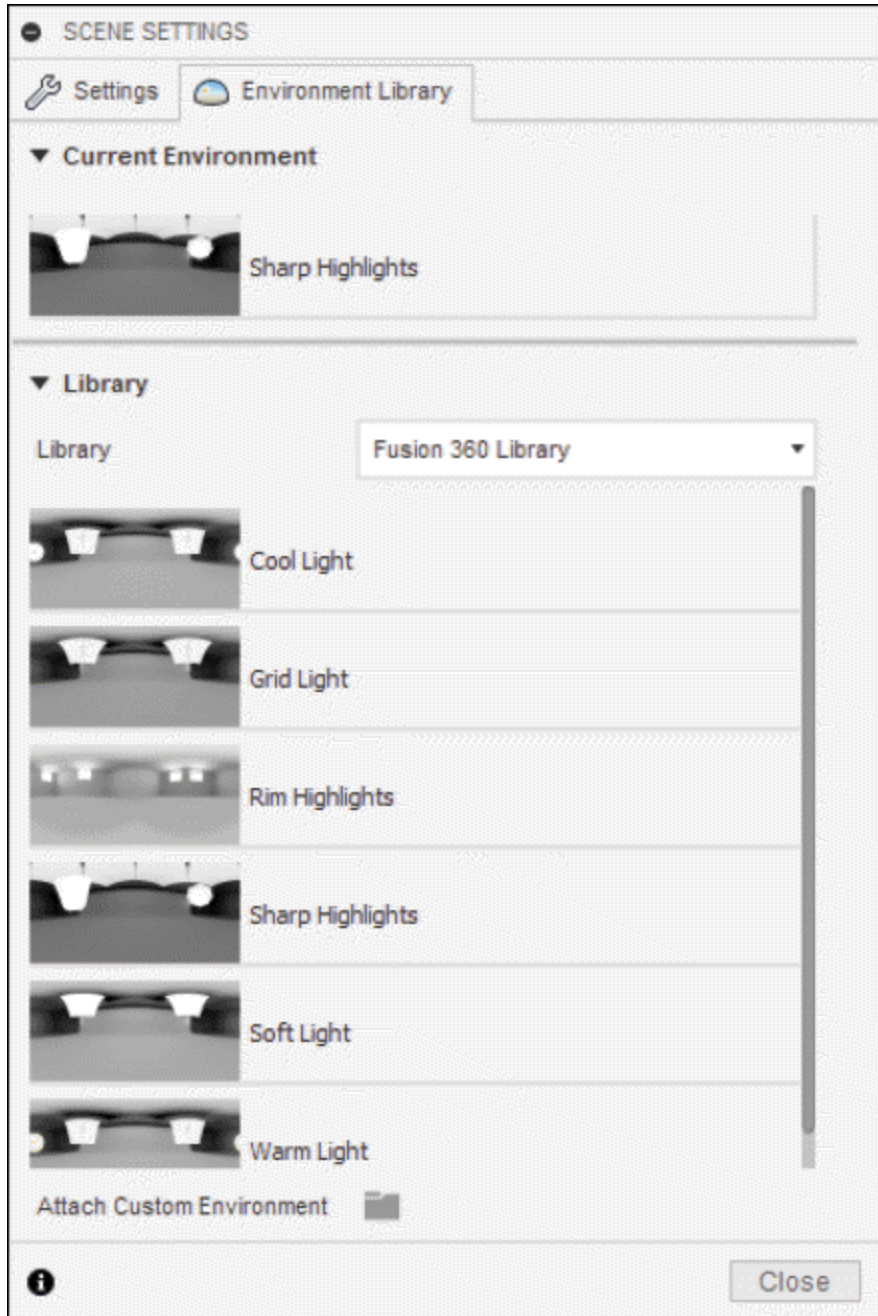

Figure-6. Environment Library tab
- Click on the **Environment Library** tab from the **SCENE SETTINGS** dialog box. The tab will be displayed; refer to Figure-6.